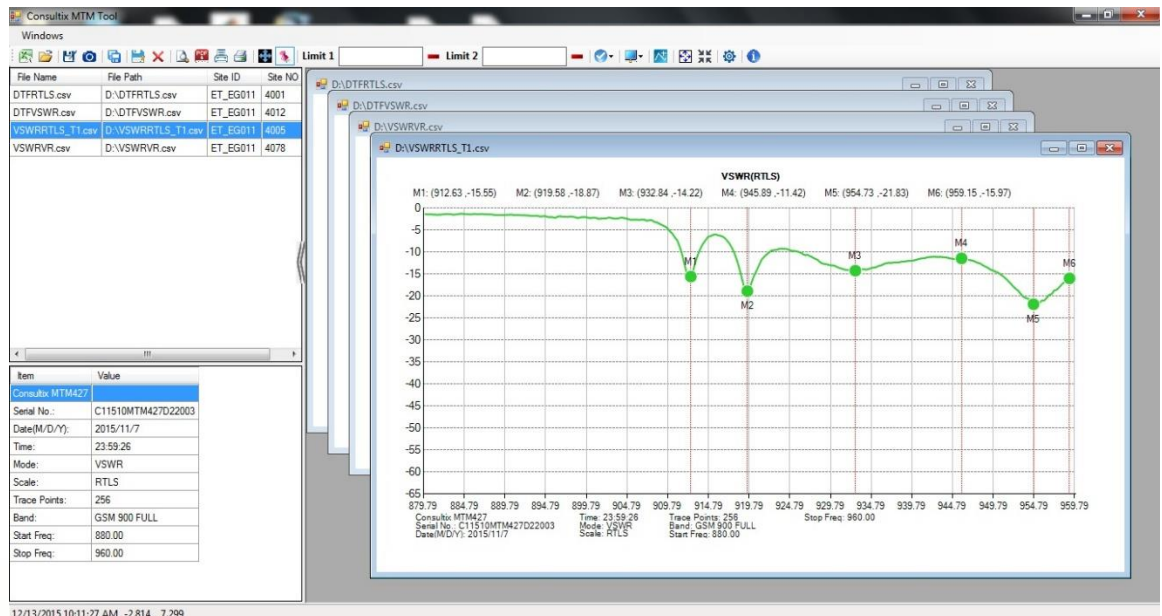

Figure 3, Working on multiple files
2. Users can browse and process many measurement files at the same time as shown in figure 3.